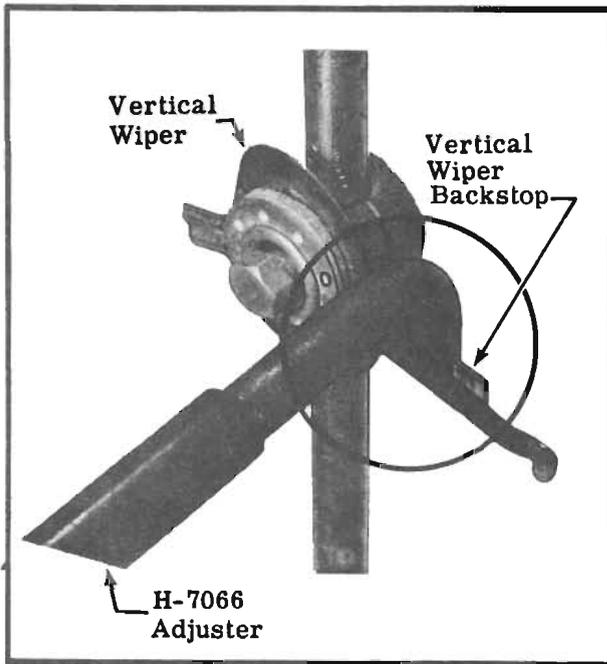
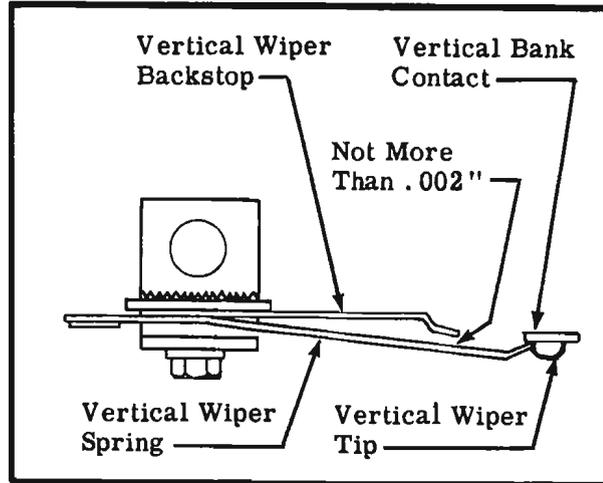

Figure 19. Method for Adjusting Vertical Wiper Backstop is Shown in Circle.
Figure 20. Above is a Side View of the Vertical Wiper and Backstop Requirements.
3.38 Check that the vertical wiper is aligned with the vertical bank contacts. To check, move wiper to first vertical step and rotate shaft until the vertical wiper back stop just lifts the wiper tip from the vertical bank contact. The end of the wiper spring should overlap bank contact by at least 1/16". This requirement should be met if the back edge of the wiper tip is approximately aligned with the front edge of the vertical bank contact. Check all levels. To adjust, place the H-7066 adjuster on the back-stop as shown in Fig. 19. Bend as required.
(Fig. 20). Check all levels. To adjust, place the H-7066 spring adjuster as shown in Fig. 19. Bend as required.